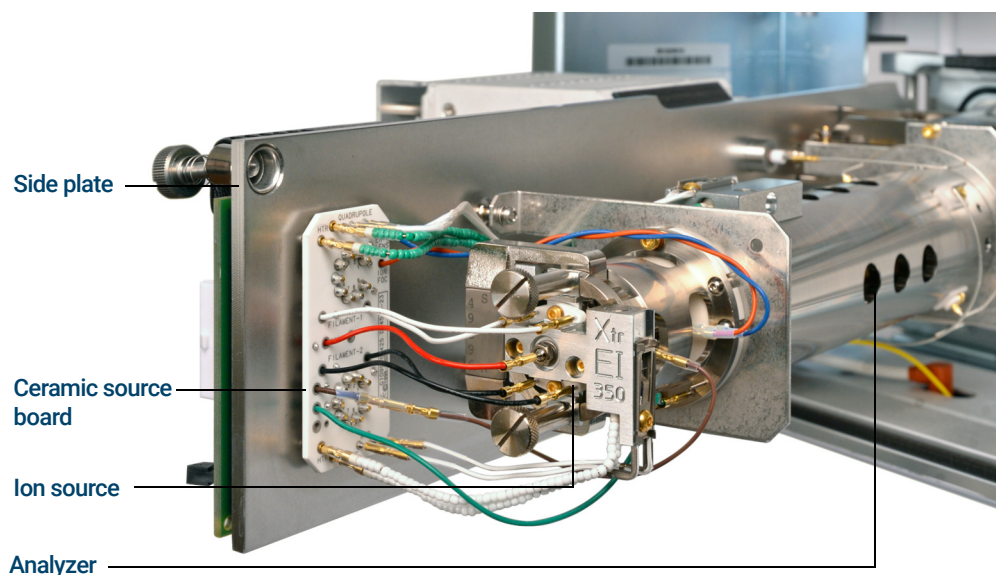

Figure 34. The analyzer chamber for an Inert+ model MSD
- 3 Loosen the analyzer side plate thumbscrews if they are fastened. (See Figure 34.)